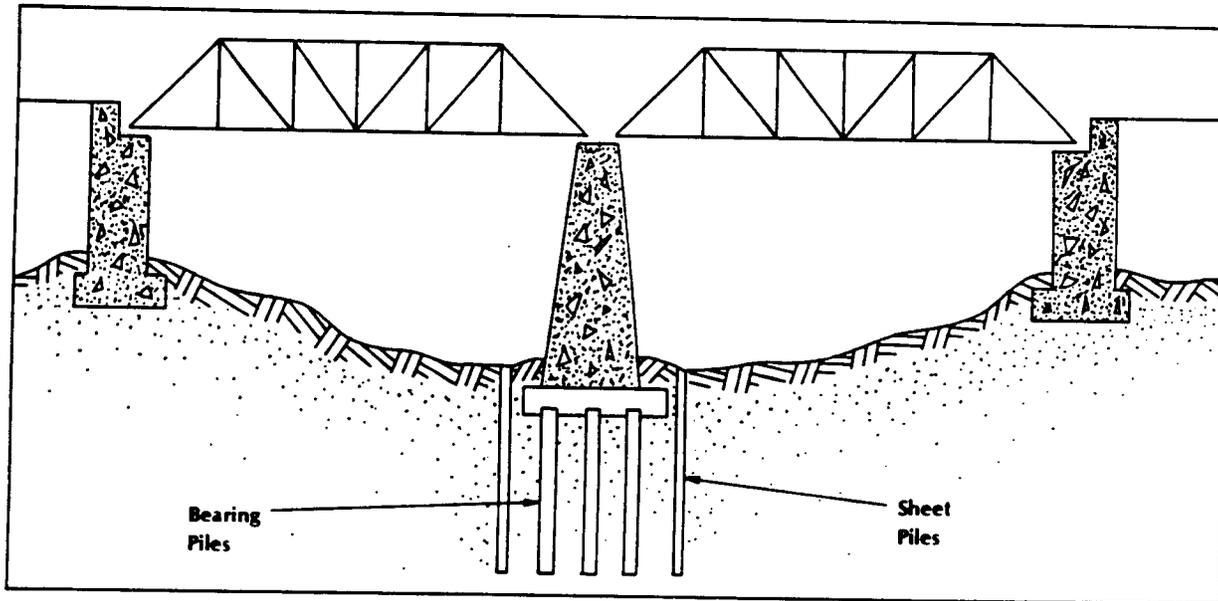
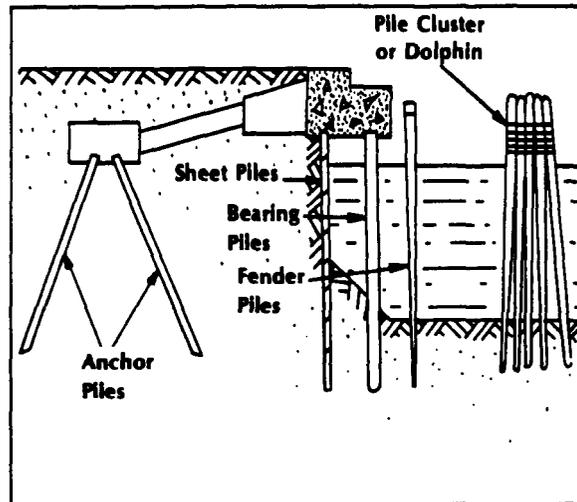

Figure 1-2 Sheet pile protecting a bridge pier
Figure 1-3 Piles in a waterfront structure
c. Sheet piles. Sheet piles are generally prefabricated or precast members driven vertically into the ground to form a continuous vertical wall. Sheet piles protect bearing piles against scour and the danger of undermining a pier foundation (figure 1-2). They form retaining walls (bulkheads) for waterfront structures (figure 1-3).
g. Anchor piles. Anchor piles are driven to resist tension loads. In hydraulic structures, there may be a hydrostatic uplift load that is greater than the downward load on the structure. Anchor piles may be used to anchor bulkheads, retaining walls, and guy wires (figure 1-3).
h. Fender piles. Fender piles are driven to protect piers, docks, and bridges from the wear and shock of approaching ships and floating objects such as ice and debris (figure 1-3).
i. Dolphins. A dolphin is a group of piles driven in clusters to aid in maneuvering ships in docking operations. These dolphins serve the same protective functions as fender piles (figure 1-3).